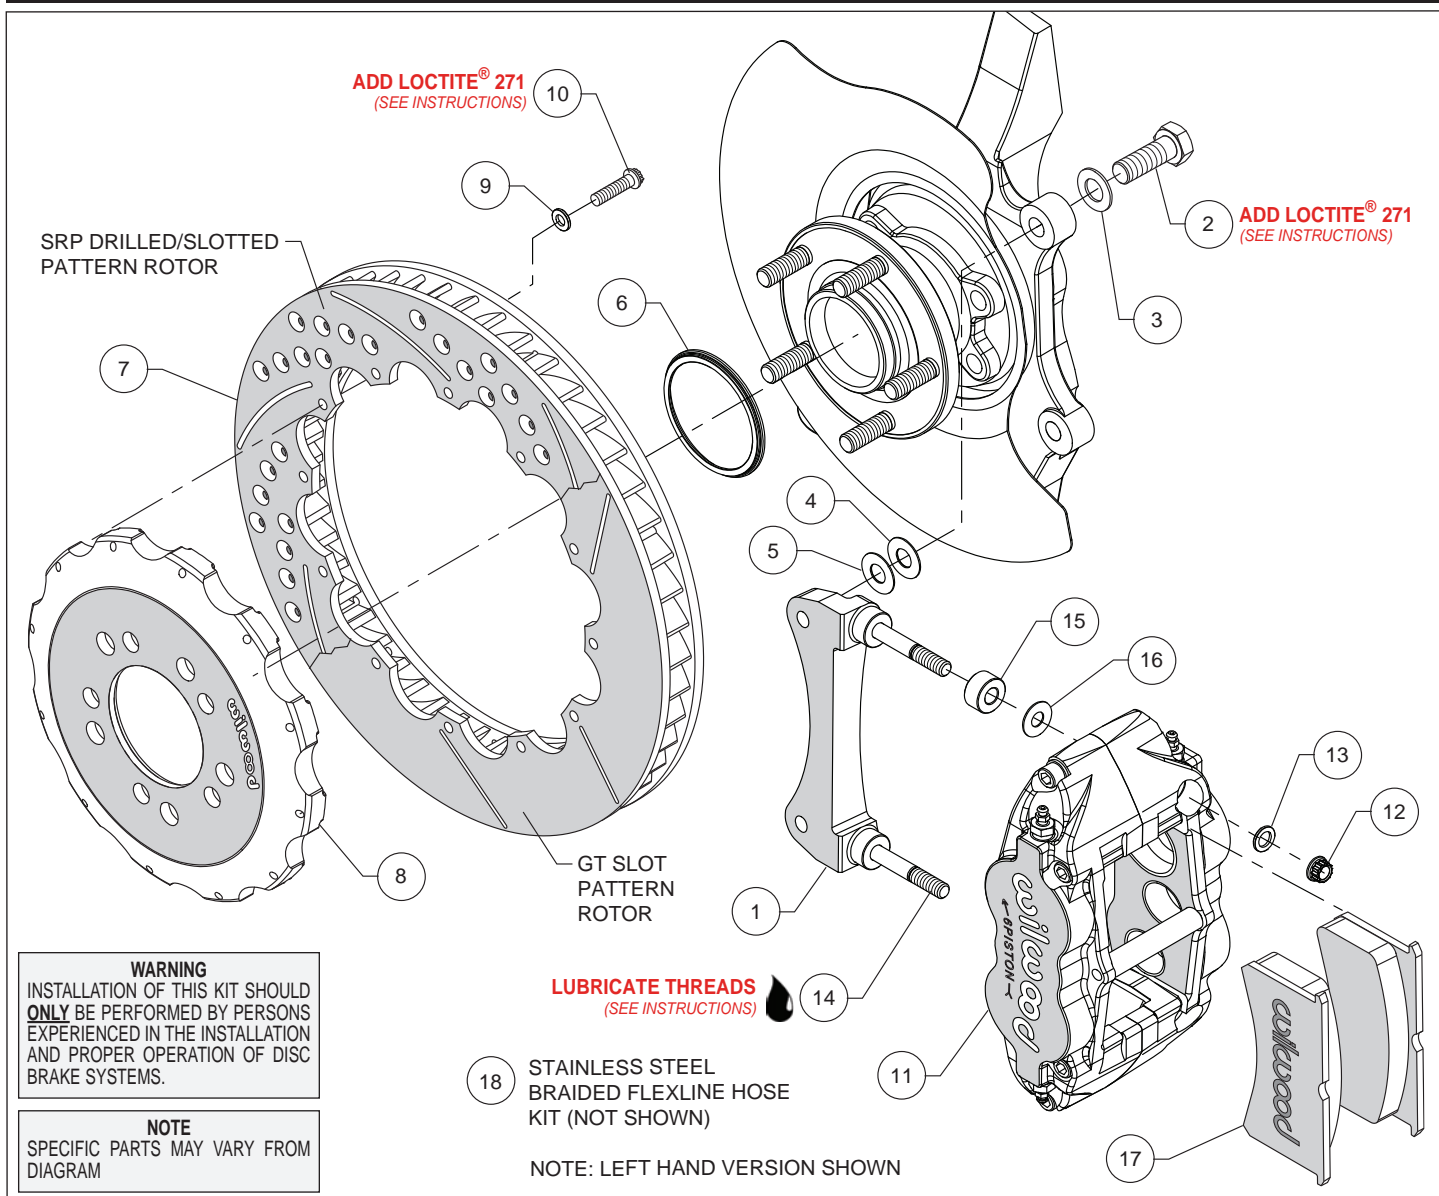
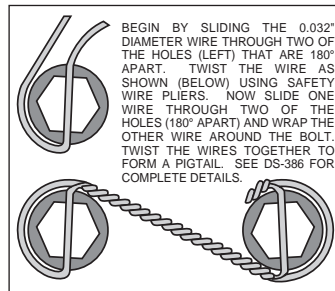

Figure 1. Typical Installation Configuration
Figure 3. Safety Wire Diagram
Assembly Instructions (numbers in parenthesis refer to the parts list and Figure 1 on the preceding pages):
- The caliper mount bracket (1) should initially be installed with clean, dry threads on the mounting bolts. Orient the bracket as shown in Figure 1 and Photo 1, and install using washers (3) and bolts (2). Initially place one .033 thick shim (4) on each bolt between the bracket and upright, Figure 1. Temporarily tighten the mounting bolts. **NOTE:** *The bracket must fit squarely against the mount bosses on the upright.* Inspect for interference from casting irregularities, machining ridges, burrs, etc. Later, after the caliper alignment has been checked, the mount bolts will be secured using red *Loctite*[®] 271.
- Orient the rotor (7) and the hat (8) as shown in Figure 1 and Photo 2. Attach rotor to hat using bolts (10) and washers (9). Using an alternating sequence, apply red *Loctite*[®] 271 to the threads, and torque to 155 **in-lbs**. For an added measure of security, the bolts may be safety wired using standard 0.032 inch diameter stainless steel safety wire as shown in Figure 3. Please refer to Wilwood's data sheet DS-386 (available at www.wilwood.com/Pdf/DataSheets/ds386.pdf) for complete safety wire installation instructions.
- Slide the rotor registration adapter (6) onto the axle register on the axle hub with the smaller O.D. facing outward, Photo 3. Slide the hat/rotor assembly (7/8) onto the axle hub. **NOTE:** *The hat must fit flush against the axle hub flange or excessive rotor run out may result.* Install three lug nuts (finger tight) to keep the hat/rotor assembly in place while continuing with the installation.
- NOTE:** *This kit contains distinct right and left hand calipers that must be mounted in a specific direction, as described below.* Lubricate the caliper mounting studs (14) with lightweight oil. Initially place one .035" thick shim (16) and one spacer (15) on each stud as shown in Figure 1 and Photo 4. Mount the caliper (11) onto the bracket (1) using lock nuts (12) and washers (13), Figure 1. Ensure that the caliper is mounted so that the largest pistons are at the rotor exit end of the caliper, in relation to the direction of rotor rotation. Temporarily tighten the lock nuts and view the rotor through the top opening of the caliper. The rotor should be centered in the caliper, Photo 5. If not, adjust by adding or subtracting shims (4 and/or 5) between the bracket and the upright. Always use the same amount of shims on each of the two mounting bolts. Once the caliper alignment is correct, remove the bracket mounting bolts (2) one at a time, apply red *Loctite*[®] 271 to the threads, and torque to 60 ft-lb.